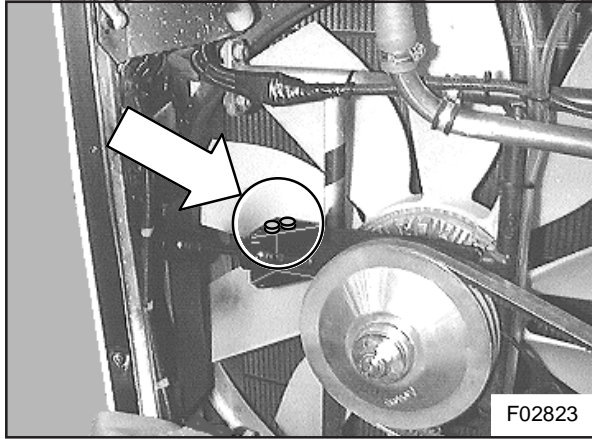
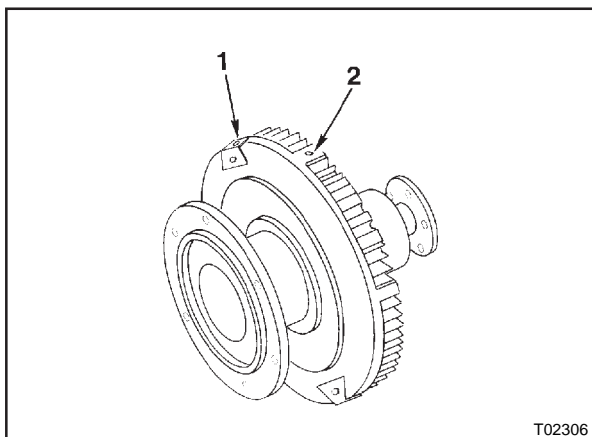

Figure 9 : Fan clutch lockup screws
Figure 10 : Fan clutch with locking device
2. Undo and remove the locking screws (wrench size : 10 mm) from the fan clutch support bracket (see Figure 9 for location of screws).
3. Turn the fan by hand, until the holes of the catch plates (1, Figure 9) match the threaded holes (2, Figure 10). Slip the locking screws through the holes in the catch plates and screw into the threaded holes. Tightening torque : 7 ft.lbf.